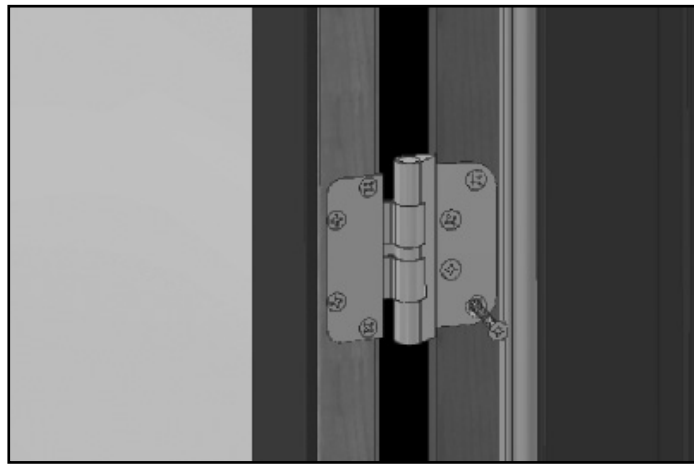

**FIG. 13**
- H) Start with a shim at each corner no more than 1" from the jamb corner. Add additional shims spaced evenly from the center of the unit. Make sure shims are spaced no more than 16" apart. Note to use flat shims or pairs of triangle shims to ensure the jamb does not twist. (Fig. 13)
- I) Additional shims are required at each lock point, head shootbolt and hinge location for all operating doors. (Fig. 13)